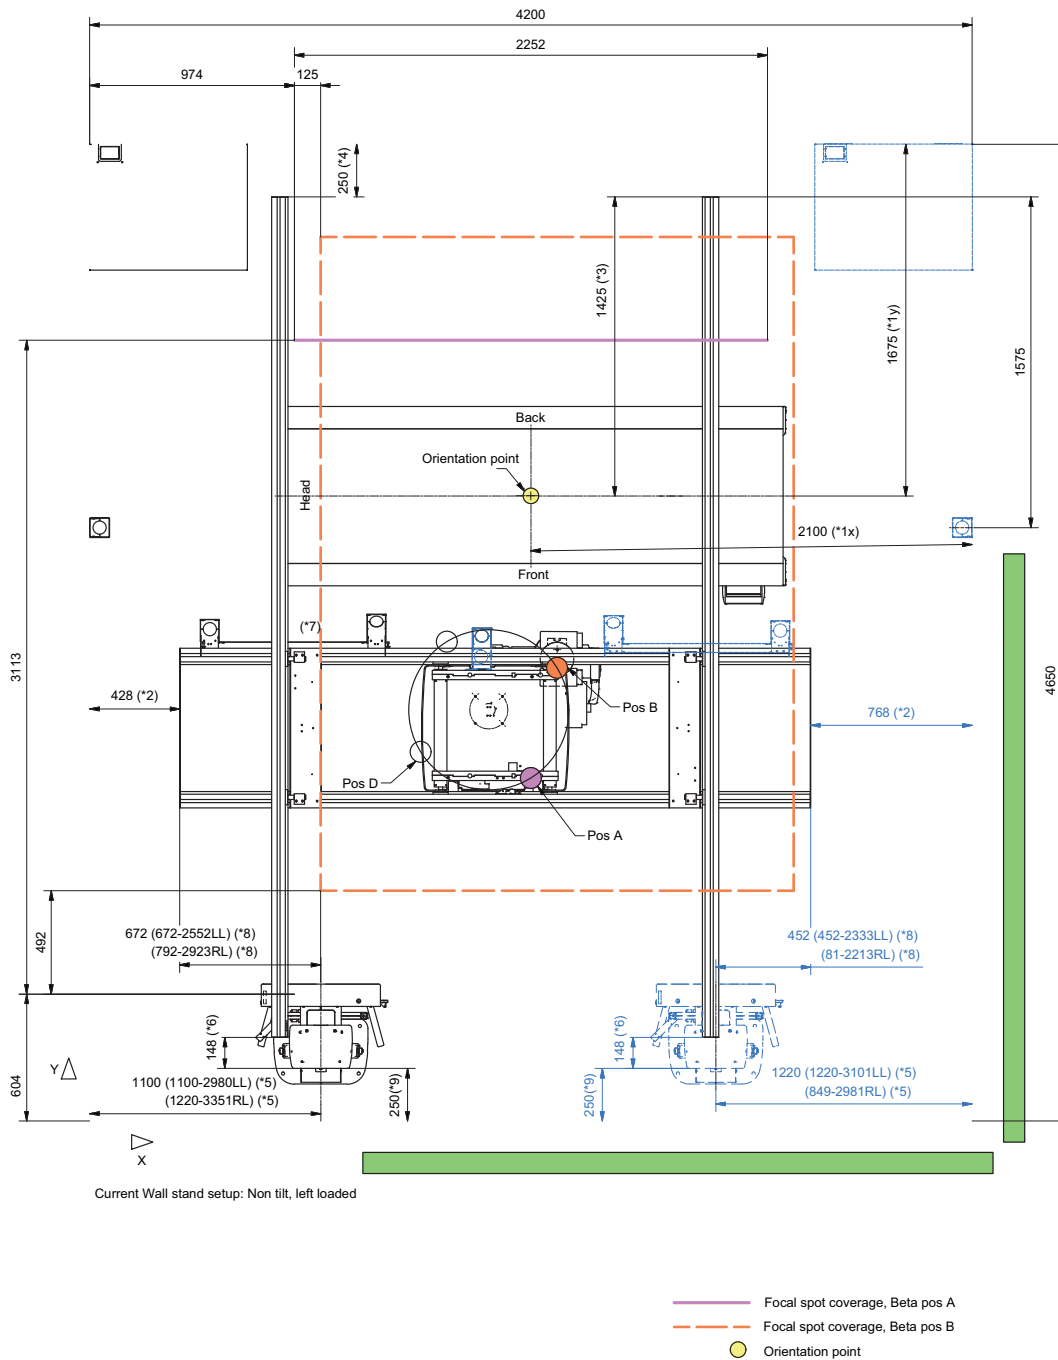

Figure 5-2
A 0180, Variant 4C installed in a room with similar size and with the components placed as described in *Figure 5-2* usually requires 16m cable length, which also is the standard configuration, see also system connections in chapter 5.
- **(*2)** is chosen due to the room size in layout 1 (*Figure 5-2*) and centers the focal spot coverage area in X-direction related to the room and table. **(*2)** must not be less than 100 mm.
- **(*5)** is chosen to give the operator enough space to work freely with the ceiling suspended unit and the wall stand (see also **(*6)**). It's allowed to mount arm rest on both sides when those min and max dimensions are withheld. Both left hand load detector holder (LL) and right hand load detector holder (RL) are described with min and max dimensions.
- **(*5)** is also chosen to give the operator enough space to work freely with the bucky/detector holder since the chosen configuration is loaded from the left side. The traverse cable outlet **(*7)** shall, if possible, always be placed as suggested in *Figure 5-2*, since the cable conduits will be in the way of the operator in a projection against the wall stand. If the recommended placing of the traverse cable outlet is not possible, the projection against the wall stand requires that the tube is rotated to position D. (consider heel effect)
- **(*5)** is also chosen to give the operator enough space to work freely with the bucky/detector holder since the chosen configuration is loaded from the left side. The traverse cable outlet **(*7)** shall, if possible, always be placed as suggested in Fig. 5-2, since the cable conduits will be in the way of the operator in a projection against the wall stand. If the recommended placing of the traverse cable outlet is not possible, the projection against the wall stand requires that the tube is rotated to position D. (consider heel effect)